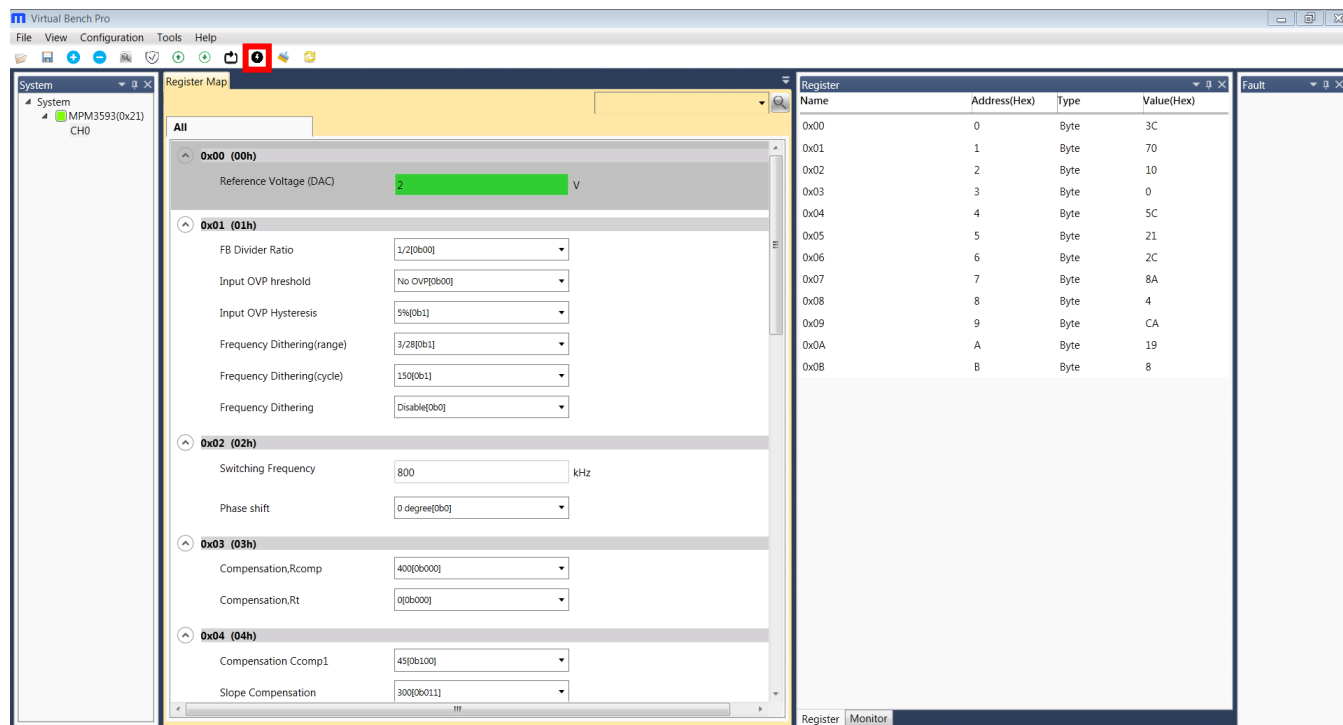

Figure 10: Write to the OTP Memory
4. Click the write to OTP button and wait until the writing action is completed (see Figure 10).